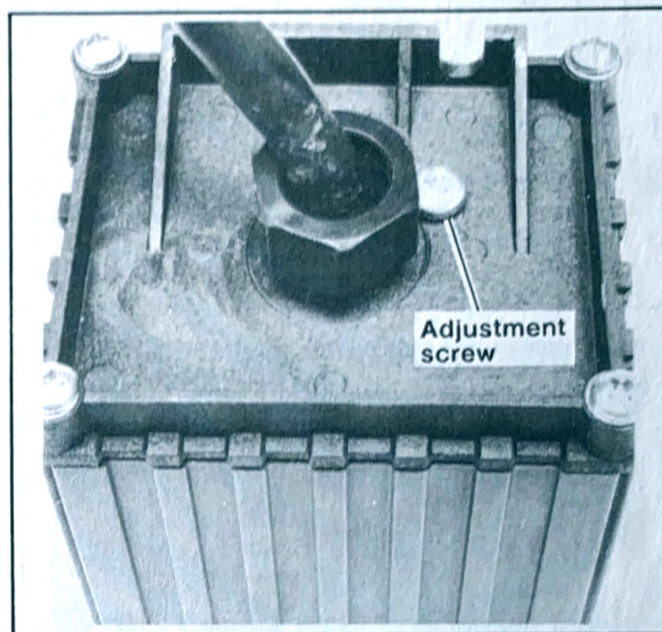

Figure 8-11. PA Gain Adjustment Screw
See Figure 8-11. The Whelen amplifiers are mounted to
2. See Figure 8-11. Remove four screws from the amplifier end plate containing the cable.
3. Gently move the end plate to expose the adjusting screw high-lighted with the arrow in Figure 8-11.